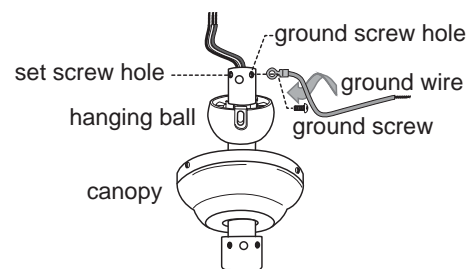

figure 4
4. Slide canopy, if it was removed, and hanging ball down over downrod (and wiring)--hanging ball must be turned with the *rounded* part facing the motor housing. Unwrap GREEN ground wire. Use metal ring on end of green ground wire to attach GREEN ground screw to top of downrod as shown in figure 4. [Note: When looking at the top of the downrod, the small hole located halfway between the two larger holes is the one that should be used for the ground screw. The *other* small hole is for the set screw and will be used in Step 5.]